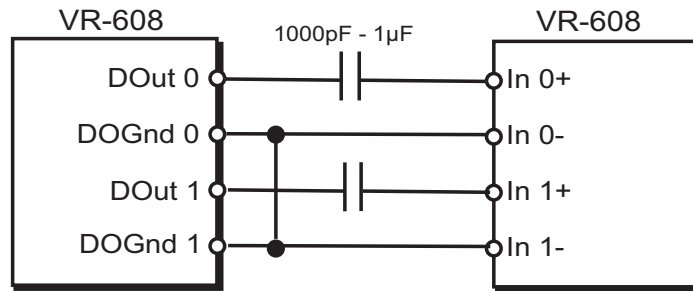

Figure 2-12 Example Wiring for Torque Simulator Loopback
- When simulating an analog sensor, an external capacitor between DOut and In+ converts the 0-5 V simulator output to the bipolar input expected by the Dual VR IC. This allows you to transition from simulator to sensor without software changes. Coupling capacitors are necessary for Torque Mode loopback tests (see **Figure 2-12**). The capacitor is optional for Timed, TPPM, N-Pulse, and Z-Pulse mode simulations as long as the front end is configured for a digital input i.e., ZC_LOGIC or ZC_FIXED. Real VR sensors connect directly to the DNx-VR-608 without a capacitor.